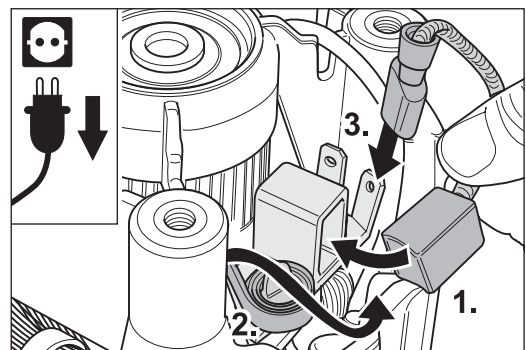

Fig. 50 Insert the new carbon brush (1.), turn the brass pressure clamp back (2.) and attach the connector (3.).
- 6 Insert the new carbon brush (Fig. 50, 1.) and turn back the brass pressure clamp of the carbon holder (Fig. 50, 2.).
- 7 Attach the carbon brush connector to the contact in the carbon holder provided (Fig. 50, 3.). Install the carbon brush cable like the other old carbon brushes that are still installed. This will prevent a later pinching of the cable.